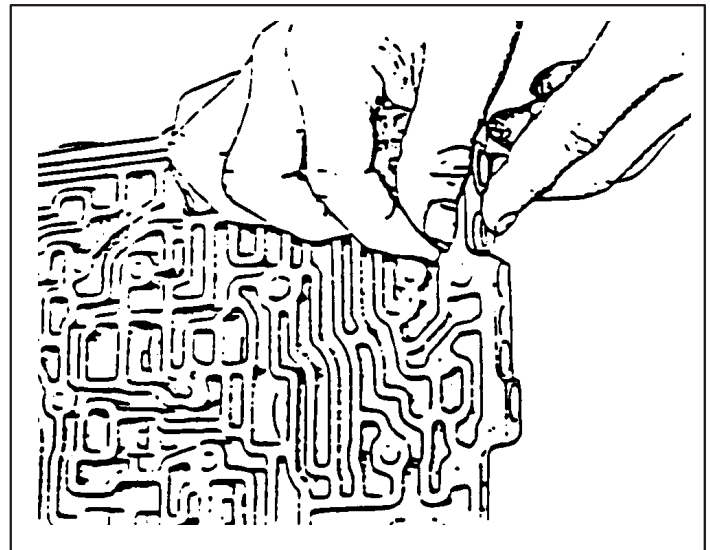

Figure 2
7. While applying slight pressure with your finger against spring force In the control valve, remove the pin, sleeve or clip that retains the control valve. (Refer to Figure 2).